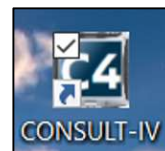

Figure 21
21. Start the CONSULT 4 (C4). (Figure 21)